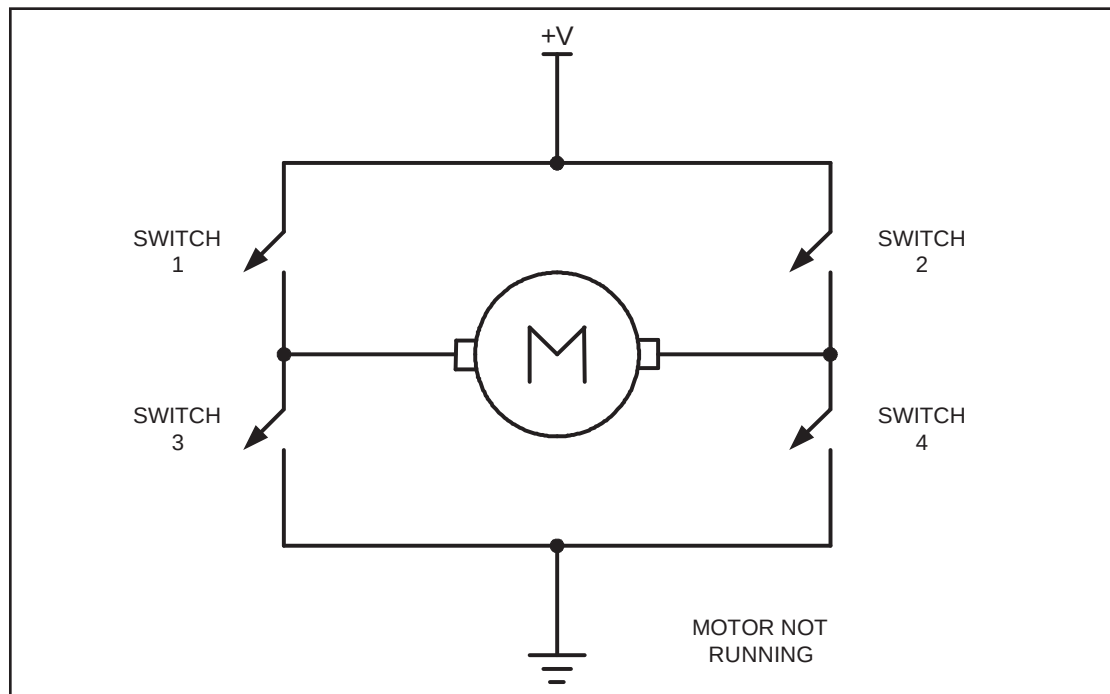

**Figure 2. H-Bridge Motor Configuration**
With the help of relays or some specially designed chips we can change the direction of the DC motor rotation. Figures 2 through 4 show the basic concepts of H-bridge control of DC motors.
Figure 2 shows the connection of an H-bridge using simple switches. All the switches are open, which does not allow the motor to turn.
**Table 2: Some H-Bridge Logic Configurations for Figure 2**